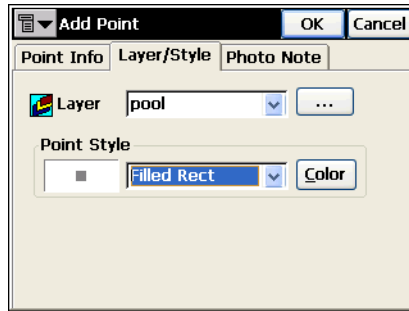

Figure 4-3. Set Layer and Point Style
- Using the *Layer/Style* tab (Figure 4-3), select the layer that the point will be stored to and the plotting properties to represent the point on the selected layer. (If needed, tap the  button to edit layers.)